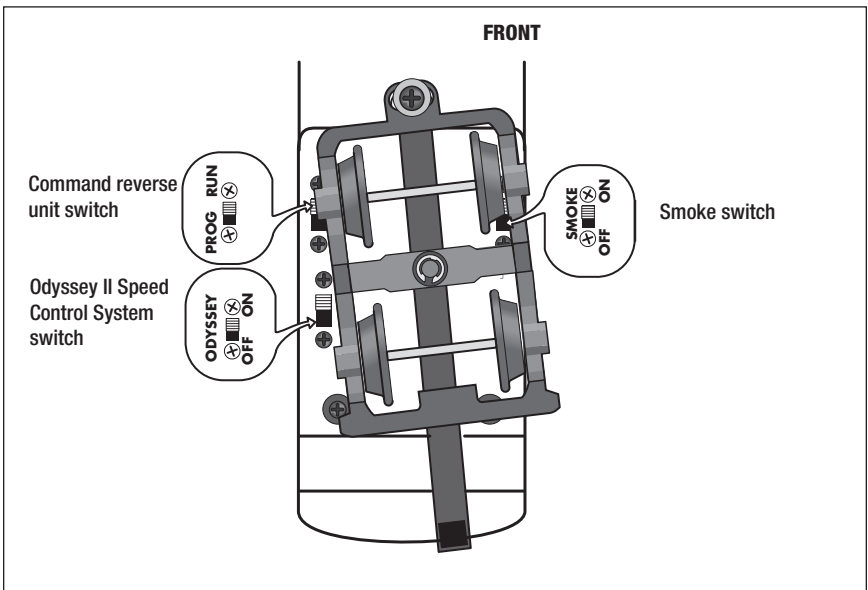

Figure 2. Switch locations
1. Slide the Command reverse unit switch on your locomotive to the PROG position. See Figure 2 on page 11.